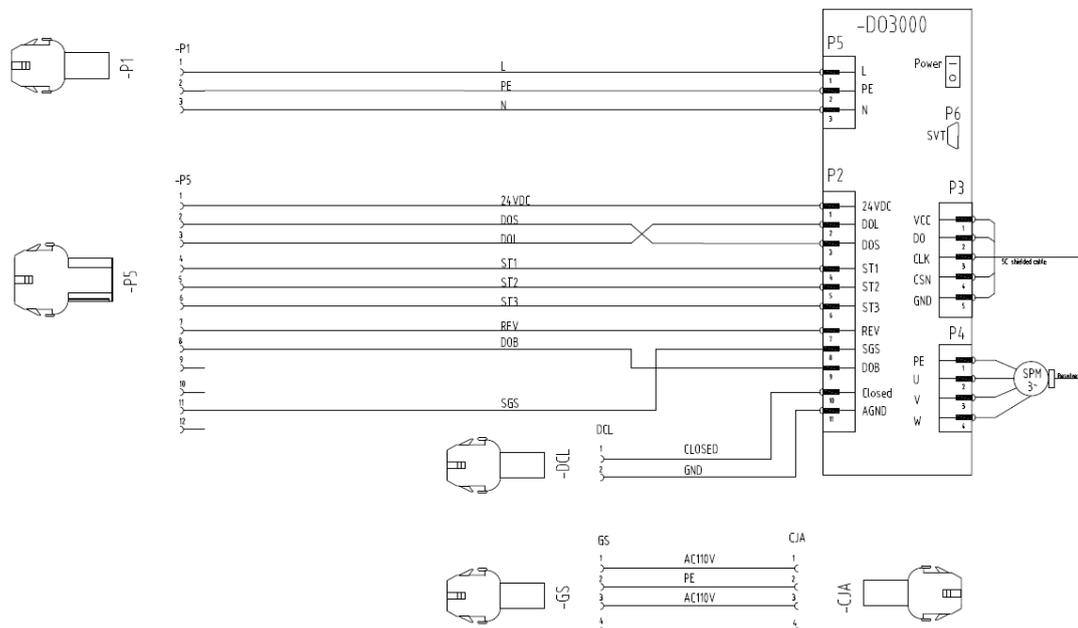

Fig.3-3 Wiring of HAA24360G2 controller components
3.1.2 Wiring of HAA24360G2 controller components (as shown in Fig.3-3)